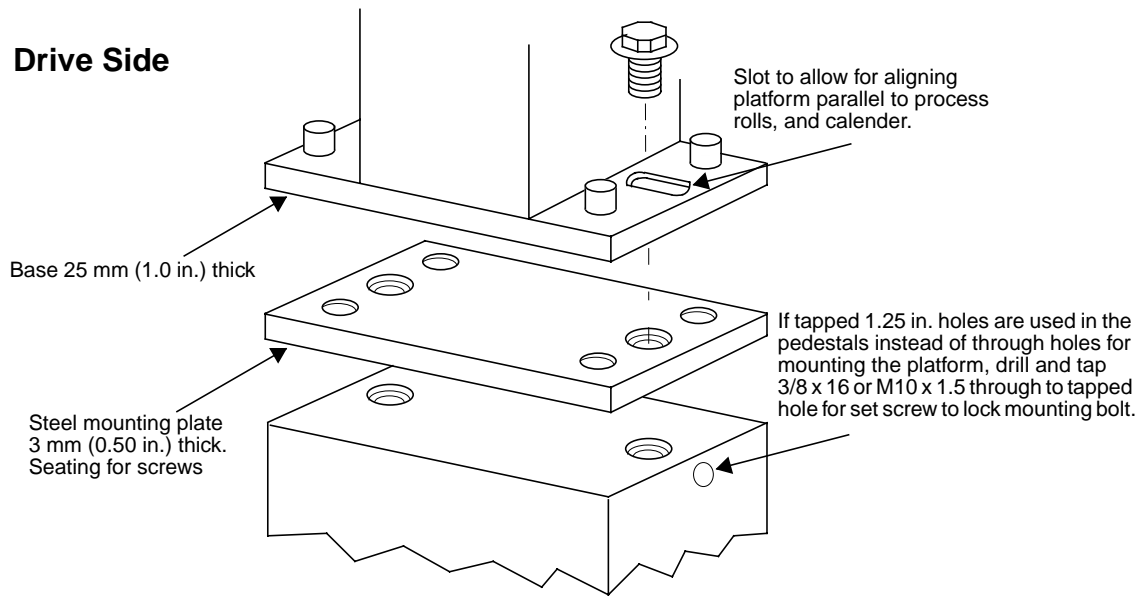
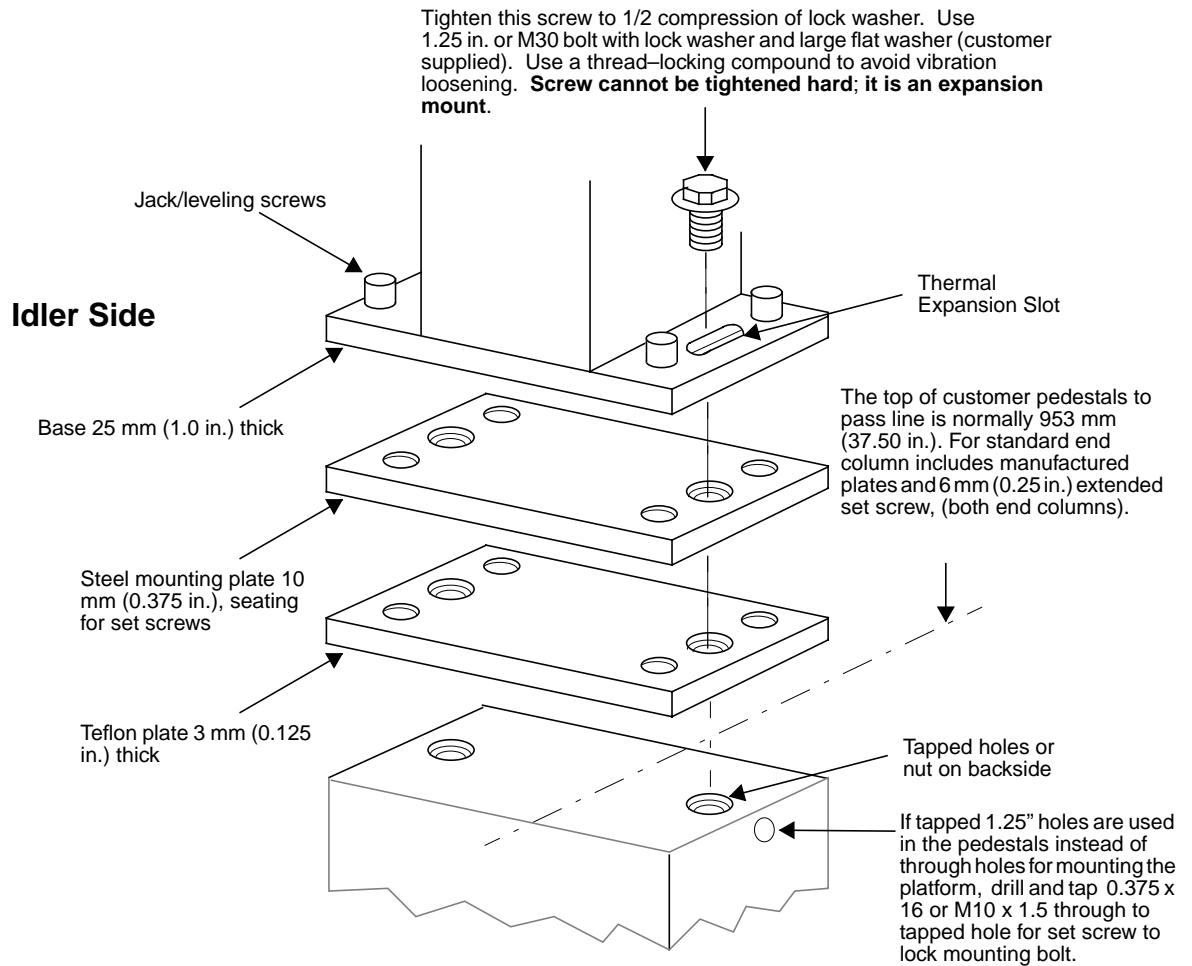

Figure 3-5 Platform to Pedestal Installation – Drive Side
Figure 3-6 Platform to Pedestal Installation – Idler Side
4. Install shims. Refer to Figure 3-5 and Figure 3-6 on page 39.
20. Adjust the jackscrews in the base of the applicable column to position the Beta source detector window 0.25 in. (6 mm) below the wire. See Figure 3-5 on page 38 and Figure 3-6 on page 39.